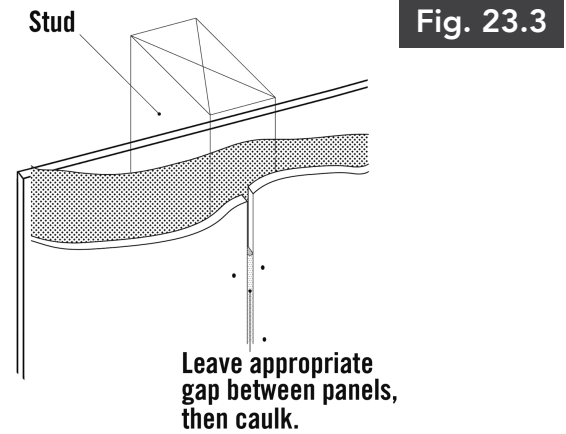

Fig. 23.3
- Leave appropriate gap and caulk according to caulk manufacturer's recommendations. (*Fig. 23.3*)